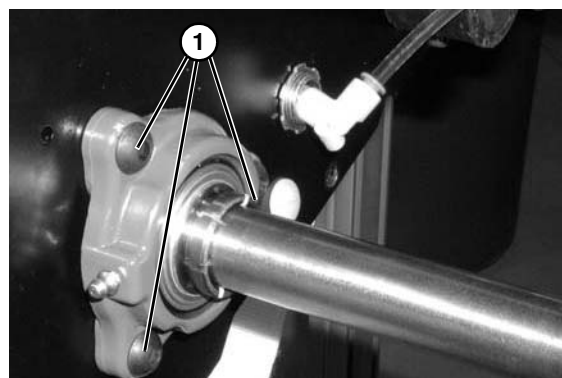

Figure 181
7. Tighten three mounting screws (**Figure 181, item 1**) to 22.5 Nm (200 in lbs).